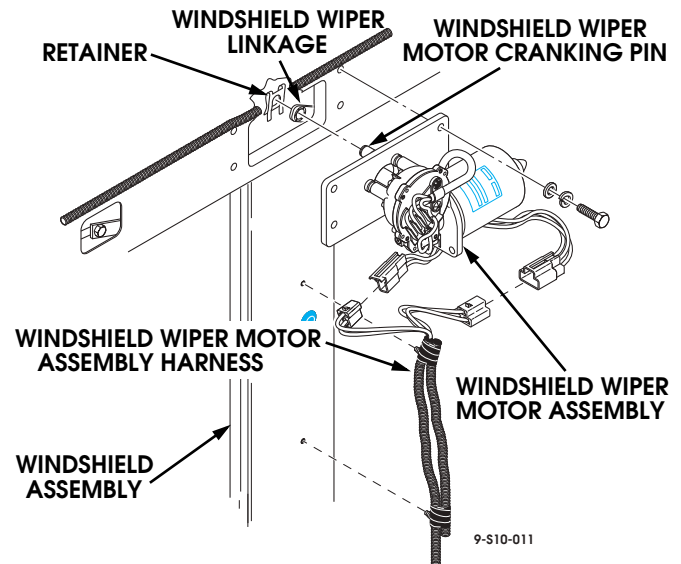

Figure 10-108: Windshield Wiper Motor Assembly Replacement
3. Disconnect windshield wiper motor assembly harness from crossbody harness (Figure 10-108).
1. Lubricate windshield wiper motor cranking pin and secure windshield wiper linkage to windshield wiper motor cranking pin with retainer (Figure 10-108).